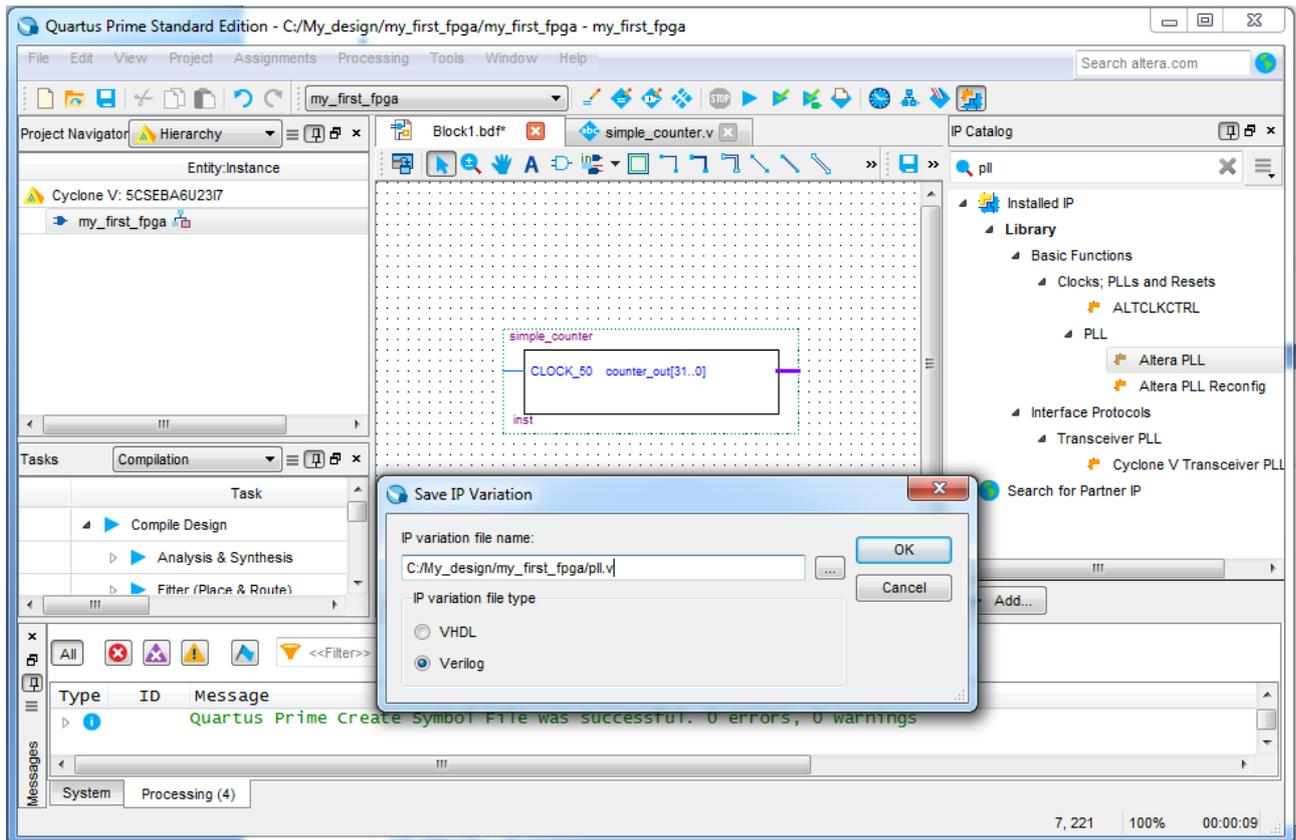

Figure 3-9 IP Catalog Selections
4. Selection Altera PLL in the Library/Clocks/PLL , click "+Add" bar. See Figure 3-9